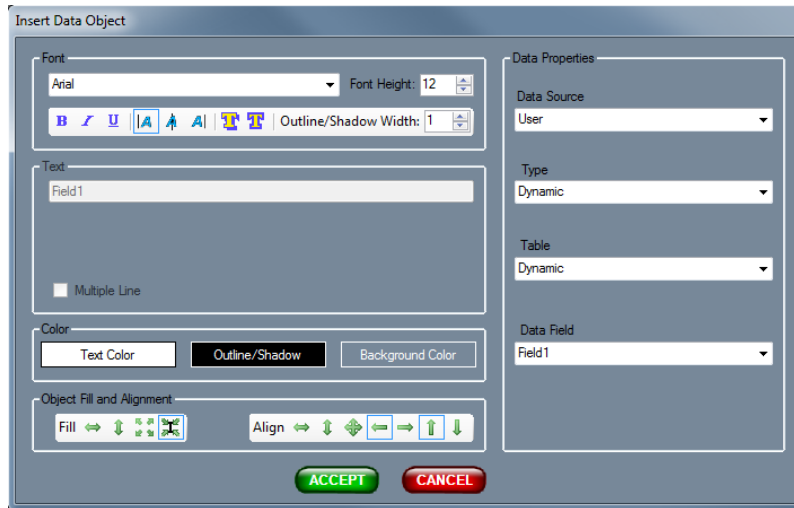

Figure 4-2
To add dynamic text (you can edit in game), click on Add a Data Item (4) icon and then a dialog window, shown in Figure 4-2, will show up. Set the Data Properties dropdown lists as shown in Figure 4-2, and change Field number as necessary. Click on ACCEPT to add this item to the overlay. You can also change the Data Properties dropdown lists to include virtual scoring items – this is explained later in this section.
In order to create a Virtual Scoreboard overlay, you will need to create each element separately and then you can arrange them in the way that you prefer. In order to add an element to the scoreboard overlay, click on the Insert Data Item (4) icon and this will bring up the Insert Data Object dialog window. In this window, to the right, you will see the Data Properties group box, similar to before as in Figure 4-2.